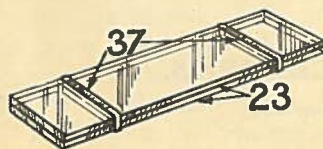

Fig. 8A.
(1) Crystals of sugar, salt, fibres of cotton, wool, silk, hair, etc., cheese dust, pollen, tiny parts of flowers or insects, and many other minute objects may be mounted on Glass Slides (23) with the aid of a needle or knife blade. The specimens should not be crowded, and only a small quantity in the case of crystals and like subjects, being placed on the slide, especially when being used under a Compound Microscope (Models 25 and 26).
(2) Flat objects, or objects capable of being flattened, such as legs and wings of insects, small clippings of coloured cellophane (for Kaleidoscope Models, (61), (75), (101), and 102), pieces of fabric, silk, grasses, scales of fish, etc., may be mounted between Glass Slides (23) held together by Rubber Bands (37) Fig. 8A.
(3) Objects which are fairly flat, such as small insects, minute moss plants, stamens of flowers, and delicate objects generally, which would be crushed by being compressed, can be given sufficient space by first putting a Rubber Band (37) round each end of a Slide before mounting the object. A second Slide is then placed over the object and another pair of Rubber Bands secures the two Slides together. The thickness of the Rubber Bands encircling only one Slide, keeps the Slides apart.